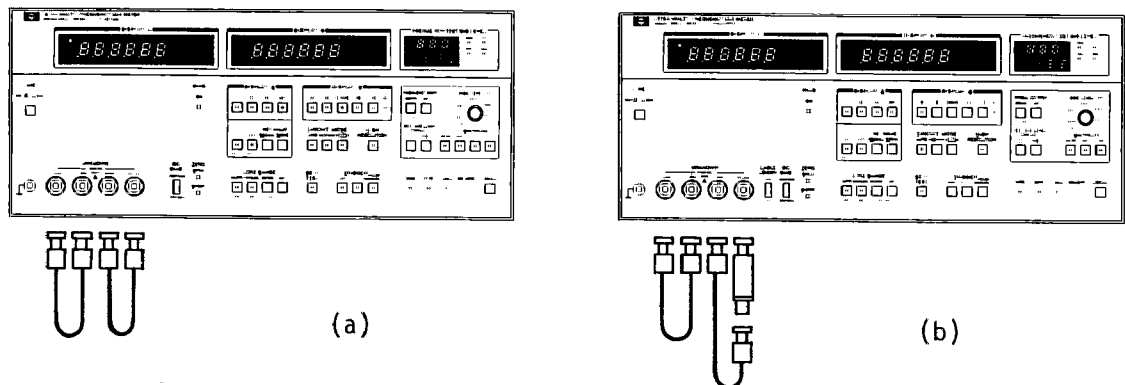

Figure 4-3. Self Operating Test Setup.
2. Connect L_{CUR} and L_{POT} terminals with a BNC to BNC cable as shown in Figure 4-3 (a). Similarly Connect H_{CUR} and H_{POT} terminals.
6. Remove the BNC cable from the H_{CUR} terminal and connect a 50Ω feed-through termination between the H_{CUR} terminal and the BNC cable. See Figure 4-3(b).
12. Remove the 50Ω feed-through termination and connect the BNC cable between the H_{CUR} and H_{POT} terminals, as shown in Figure 4-3(a).